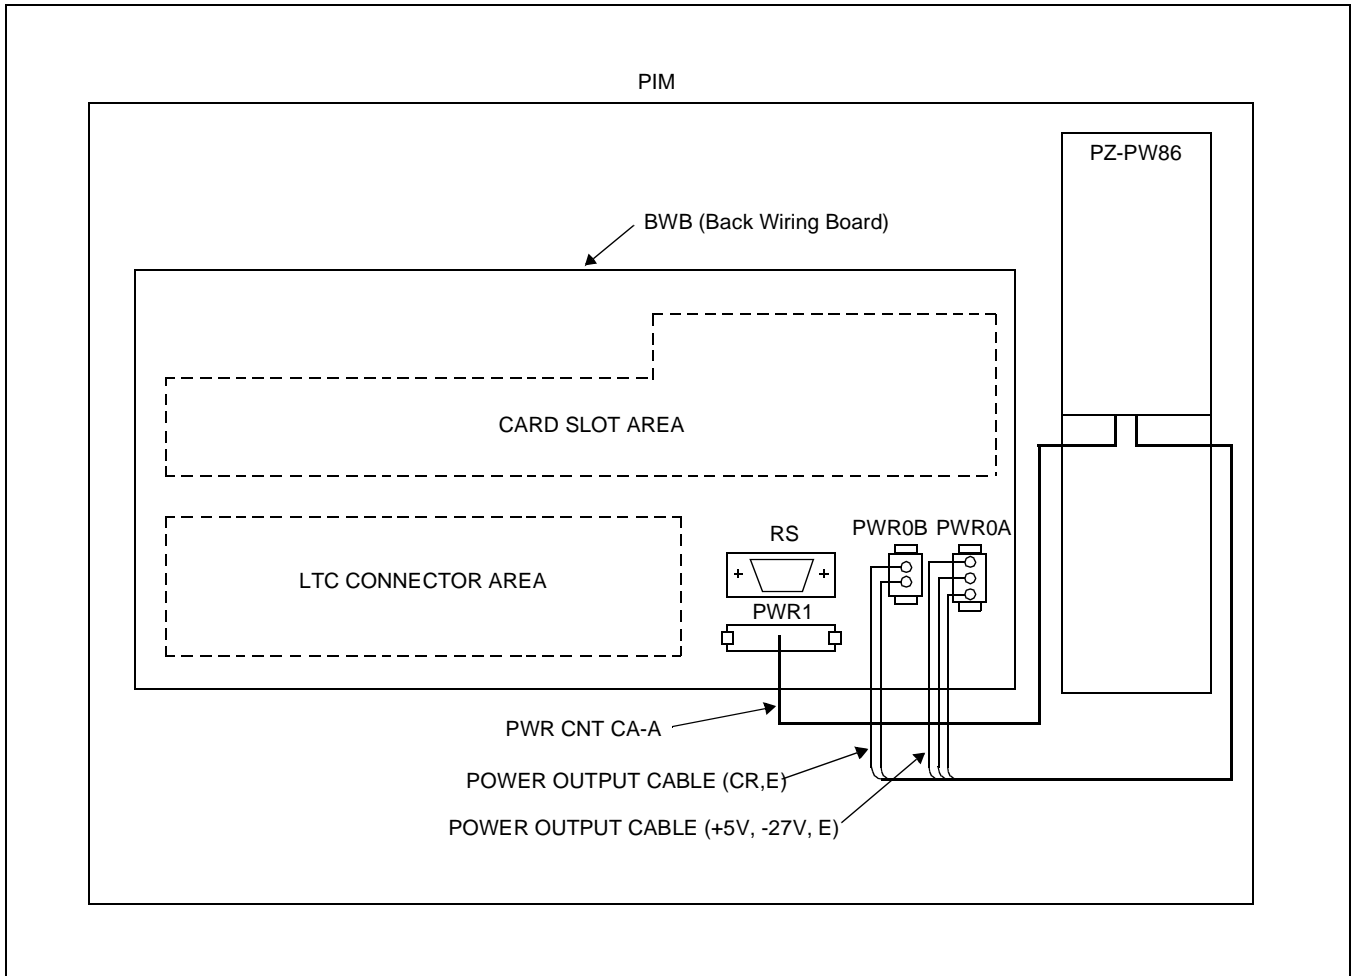

Figure 003-10 Cable Connection between the PZ-PW86 and the BWB
- (9) Confirm the connection of the PWR CNT CA-A and power output cables as shown in Figure 003-10 (These cables are pre-installed).